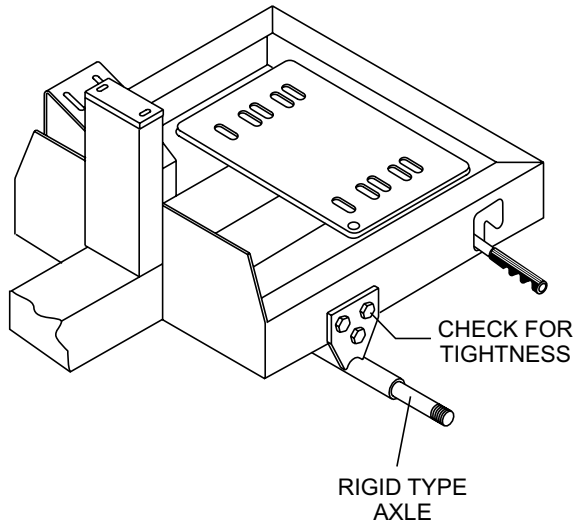

Figure 37. Axle Support Components
2. Torque all lug nuts in sequence. See Figure 37. **DO NOT** torque the wheel lug nuts all the way down. Tighten each lug nut in 3 separate passes as defined by Figure 37.